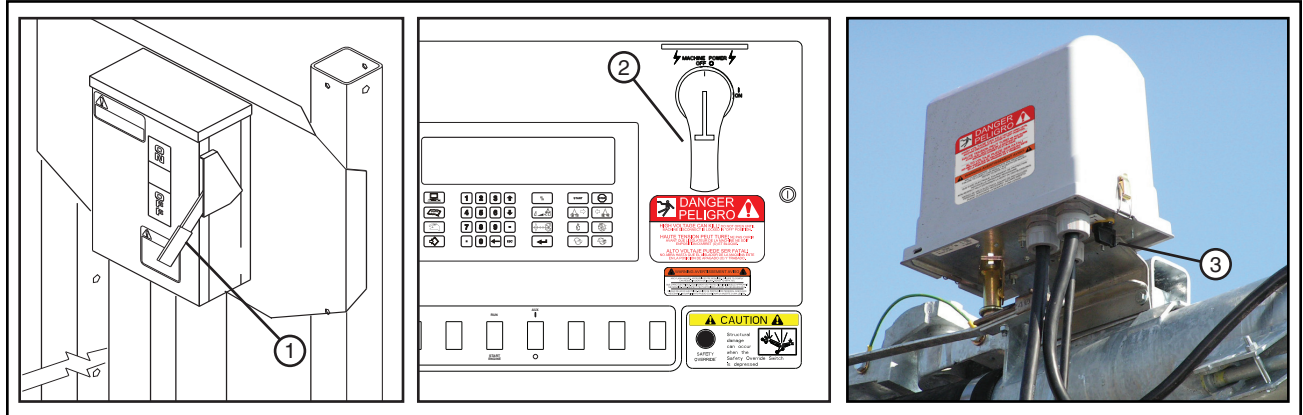

Figure 37-1 1. Main Service Disconnect Switch
- Main Service Disconnect Switch from public power to the control panel. See figure 37-1.
- Control Panel Main Disconnect Switch. See figure 37-1.
- Any Tower Box Disconnect Switch. See figure 37-1.